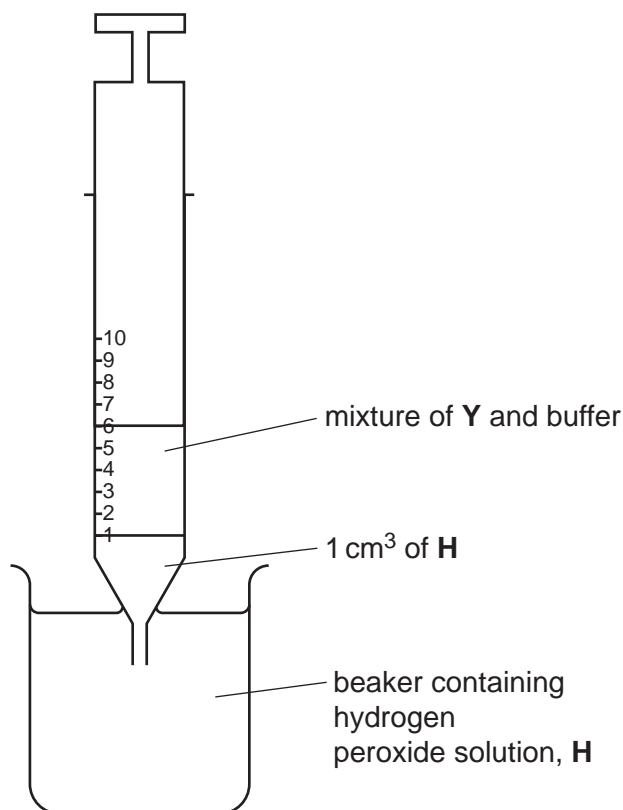

Fig. 1.4
12. Pull the plunger out to the 6 cm³ mark so that approximately 1 cm³ of **H** enters the syringe, as shown in Fig. 1.4.